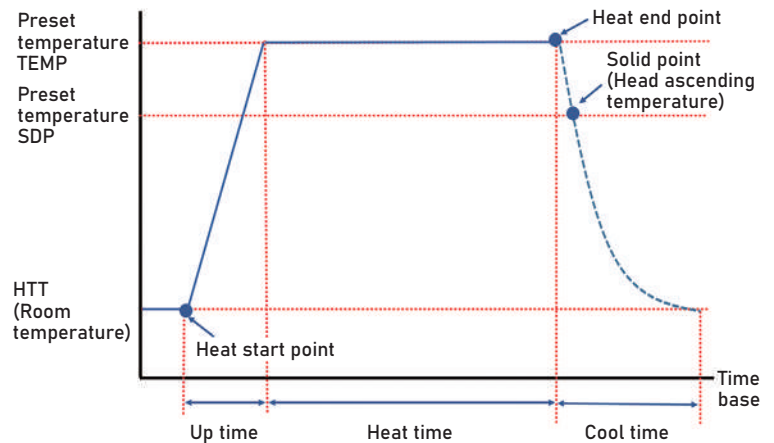

Fig. 2 Temperature profile
5. The heater tip/heater tool return to room temperature. (Fig. 2)